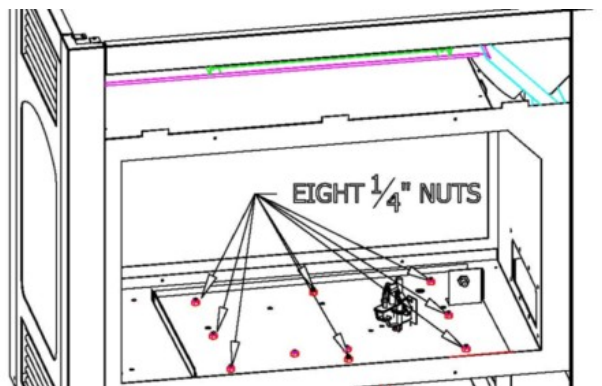

Figure 12B
6. Loosen and remove the (8) 1/4" nuts and, while grasping the board, gently lift it off the (8) studs and remove from the firebox. Figure 12B.
1. Grasp the burner with both hands and place into the unit, lining up the (8) 1/4" holes in the millivolt board to the (8) mounting studs on the firebox bottom. Refer to Figure 12B.